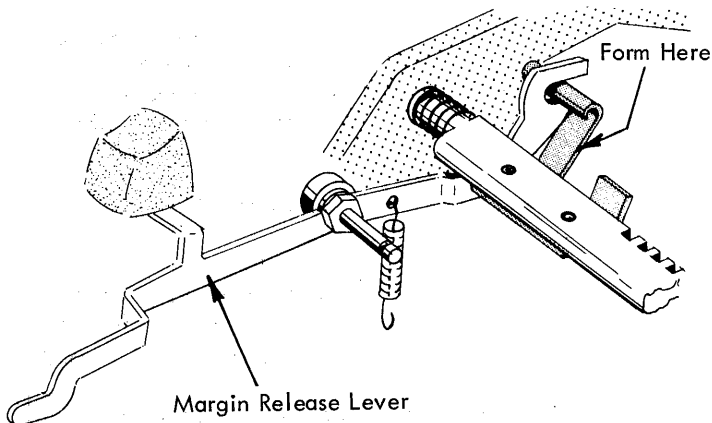

FIGURE 247. Margin Release Mechanism (11 Inch - Late)
- b. Late - Form the margin set lever stop, which is fastened to the left end of the margin rack, so that the margin rack is level when the margin release keylever is at rest (Fig. 247).